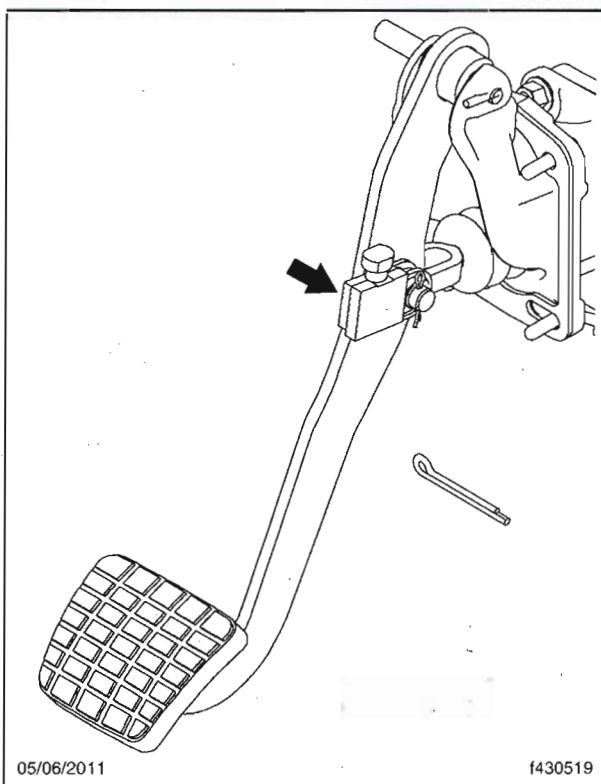
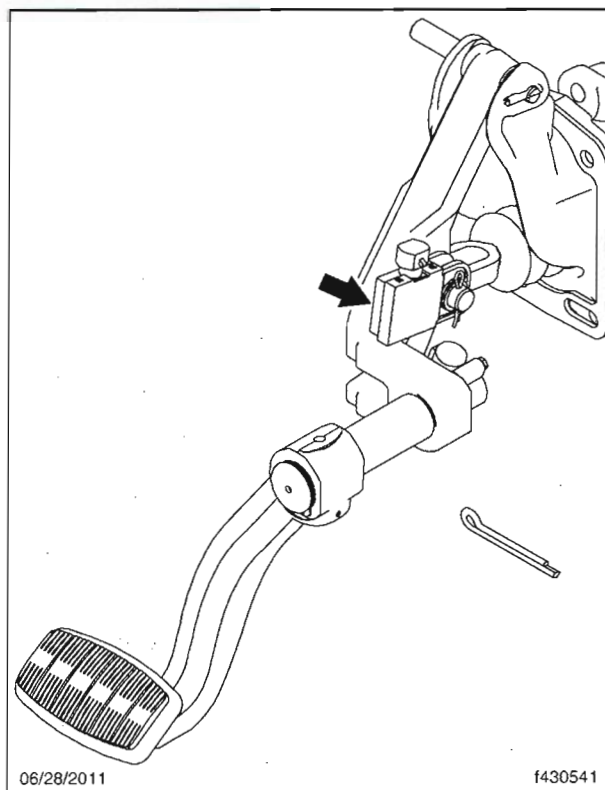

Fig. 1, Brake Switch Location, Fixed Brake Pedal
Fig. 2, Brake Switch Location, Adjustable Brake Pedal
3. Determine whether the brake pedal is a fixed or adjustable version. See **Fig. 1** and **Fig. 2**.
1. Locate the brake switch on the brake pedal. See **Fig. 1** for location of the brake light switch on a fixed brake pedal. See **Fig. 2** for the location of the brake light switch on an adjustable brake pedal.